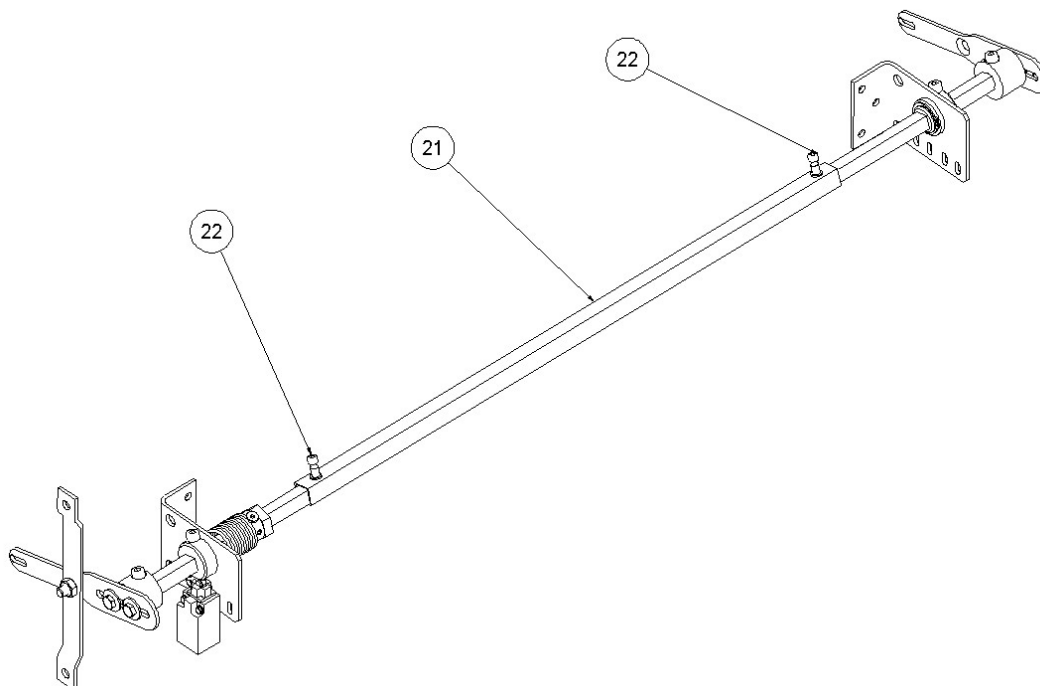

Figure.7
**7. DRIVING BAR AXLE PLACING:** The endings of the driving bar axle (21) must be screwed together with each arm through M8 x 10 DIN 933 8.8 screws (22) - Fig.7 -.